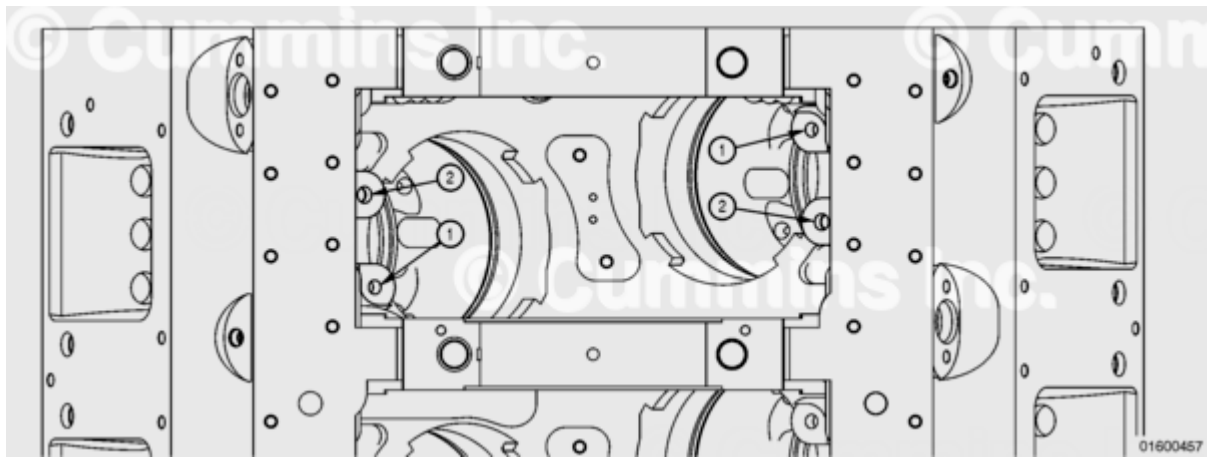

Figure 9: Lower Piston Cooling Nozzle Reference Point (1) Primary Datum Reference Surface (locating pad), (2) Mounting Pad.
Lower Piston Cooling Nozzle (See Figure 9, 10, and 11)
- Figure 9 shows the location of the primary datum reference surface (1) or locating pad and the mounting pad (2).
- NOTE: Surfaces (1) and (2) in Figure 9 and Figure 10 are parallel to the cylinder head mounting surface (head deck).